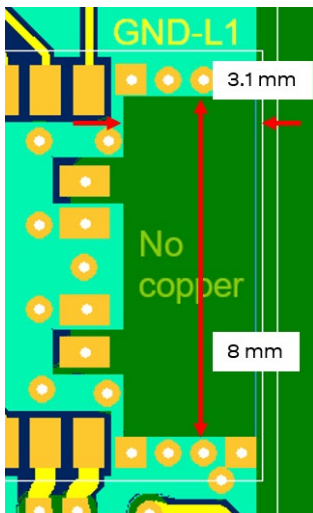

Figure 23: Size of the GND cut out for the NINA-W1x6 module's PCB trace antenna
- The host PCB shall include a full GND plane underneath the entire module, with a ground cut out under the PCB trace antenna according to the description in Figure 23.